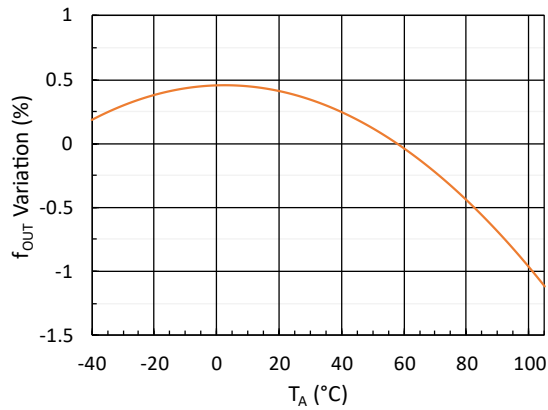

Figure 12: Output frequency variation vs operating free-air temperature
(1) Specification is assured by design and characterization data.
(3) See Figure 12 for output frequency variation as a function of temperature.